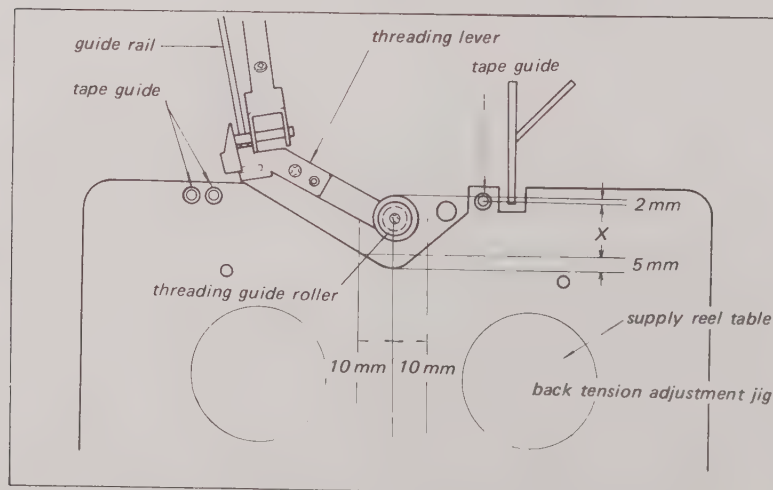

Fig. 5-41. Adjustment of threading guide roller position
2. Rotate the Threading Ring by hand slowly to the stop position. Check to see that the Threading Guide Roller is within the dimensions (X) shown in Fig. 5-41.